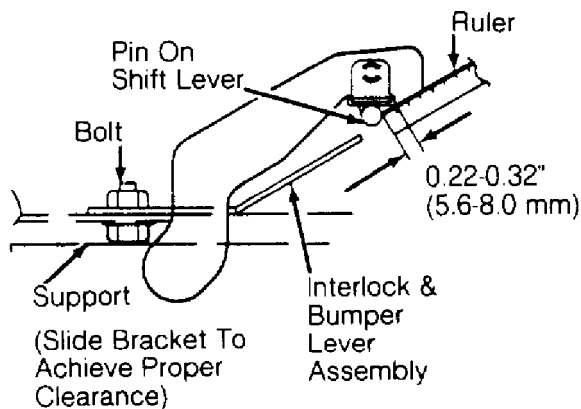

Fig. 6: Adjusting Solenoid & Interlock Assembly (Off-Vehicle)
2) Measure clearance between lower shift tube lever pin and interlock and bumper lever assembly contact. See Fig. 6. Loosen 2 solenoid adjustment bolts. Slide interlock and bumper assembly to obtain 0.22-0.32" (5.6-8.0 mm) clearance. Tighten 2 solenoid adjustment bolts evenly to 12 ft. lbs. (16 N.m).